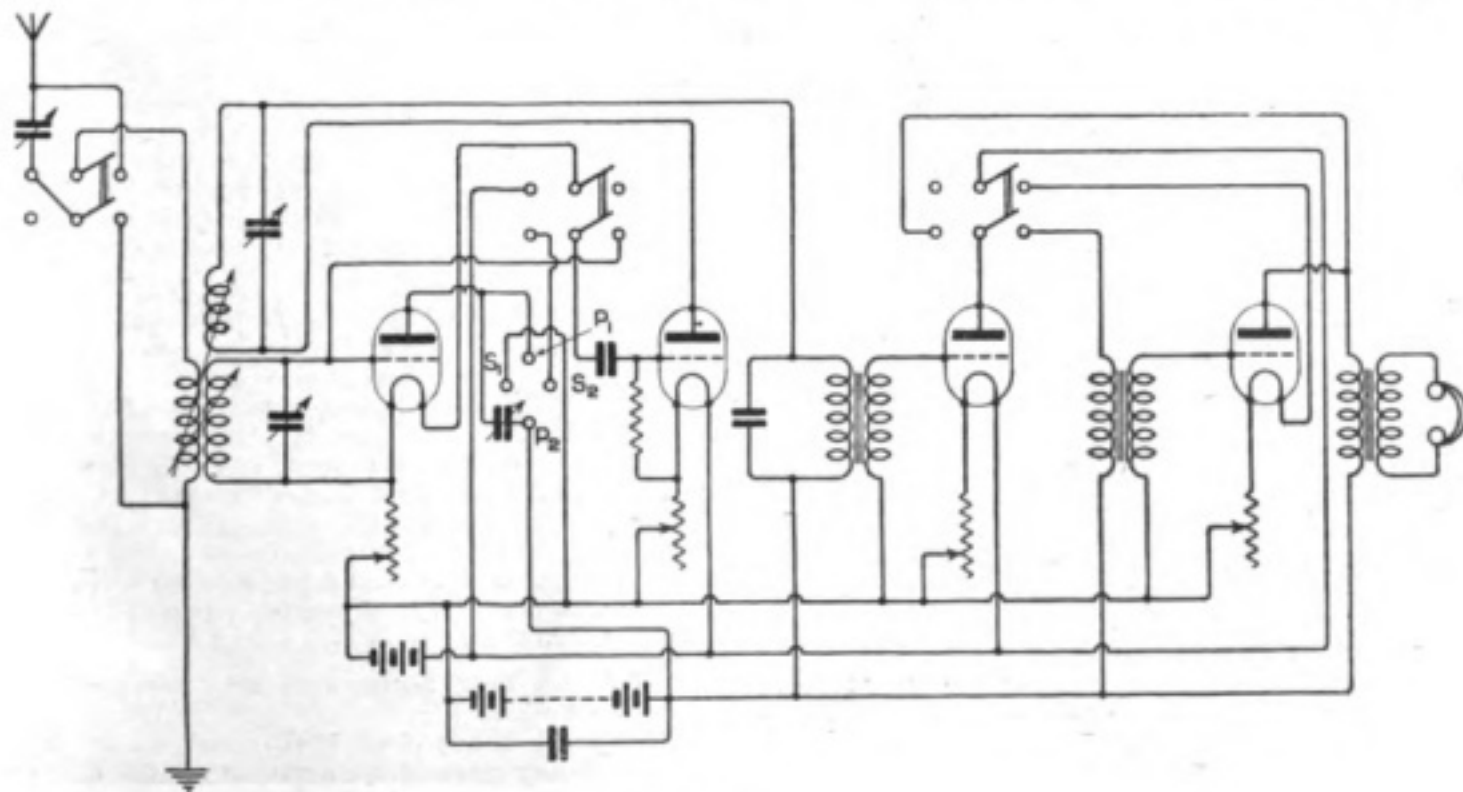

Fig. 6.
(1) See diagrams Figs. 6 and 7. (2) Use 1" polished ebonite rod as a former on which to wind the transformers. Four valve legs can easily be screwed into one end by making tapped holes. If you are desirous of using transformers of various values and having them interchangeable. Where more than one H.F. transformer is used, it is essential that they shall all have exactly the same values, or otherwise one transformer will filter out signals on wavelengths on which the other will operate best. Wind on the required number of turns for the wavelength required in the form of a single layer, and insulate primary from secondary with a single layer of empire cloth. As an approximate guide, 600 turns of No. 40 S.S.C. give 600 metres. Make primary and secondary windings both in the same direction, and the two leads passing from one end of the transformer are taken to grid and plate. (3) The bobbin should measure 1 1/4" long by 1 1/4" in diameter. The core, which should consist of fine soft iron wire, should have a diameter of 5/16 of an inch, and the primary should be wound to a depth of 3/4" with No. 46 S.S.C.,